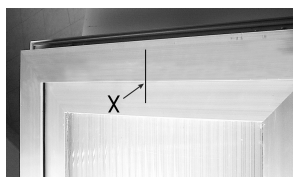

Figure 7
- B. Trace centrepoint X in pencil onto the window frame (Fig.7) or fairly divide it in case of use of more Syncro³.